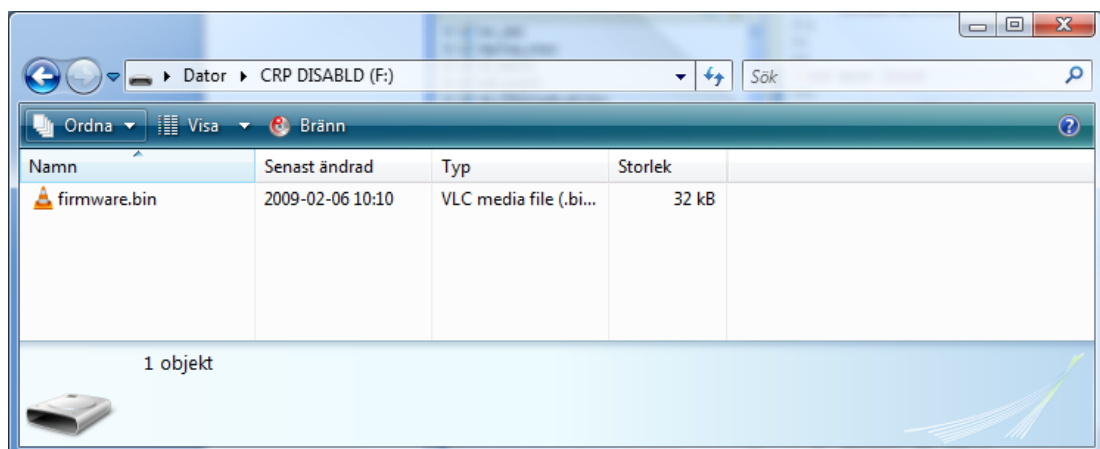

Figure 8 – Mass Storage Device
6. Press down the bootloader push-button (SW2) and then press and release the reset push-button (SW1) on the *LPC11U35 QuickStart Board*. A storage device named CRP DISABLD will now appear on your computer, see *Figure 8*.